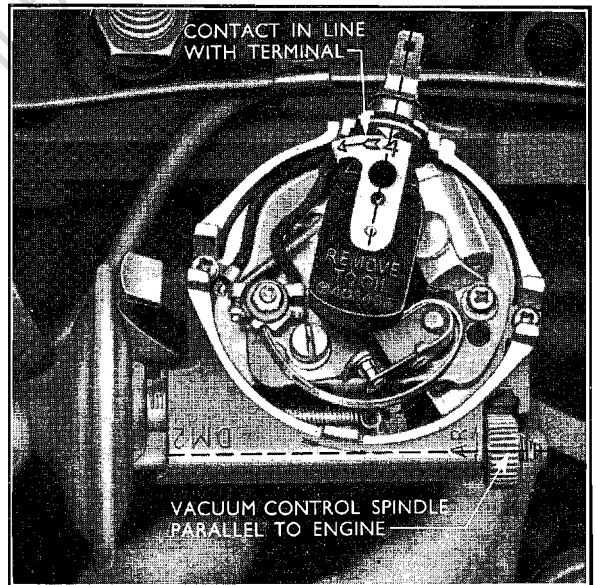

Fig. 9
2. Locate the distributor on the engine, firstly ensuring that the rear face of the rotor arm contact is in line with the low tension terminal on the distributor body and that the vacuum diaphragm spindle is parallel to the engine (see Fig. 9).